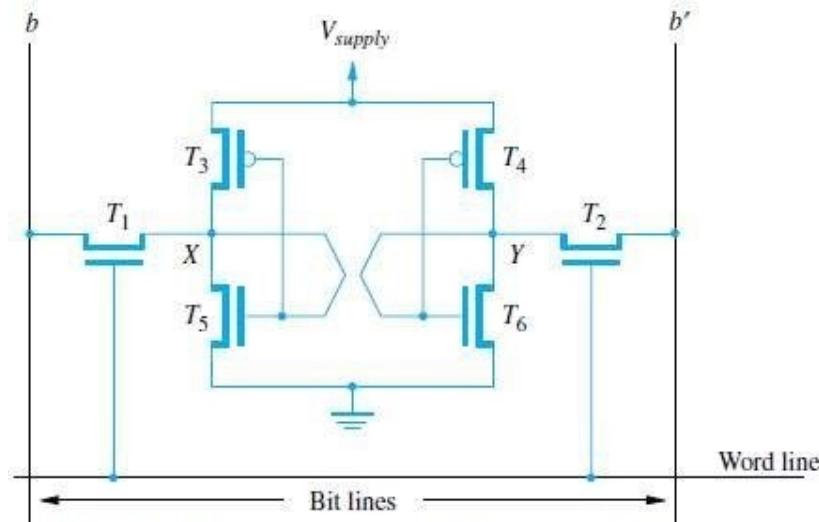

Figure 8.5 An example of a CMOS memory cell.
- Transistor pairs (T3, T5) and (T4, T6) form the inverters in the latch (Figure 8.5).